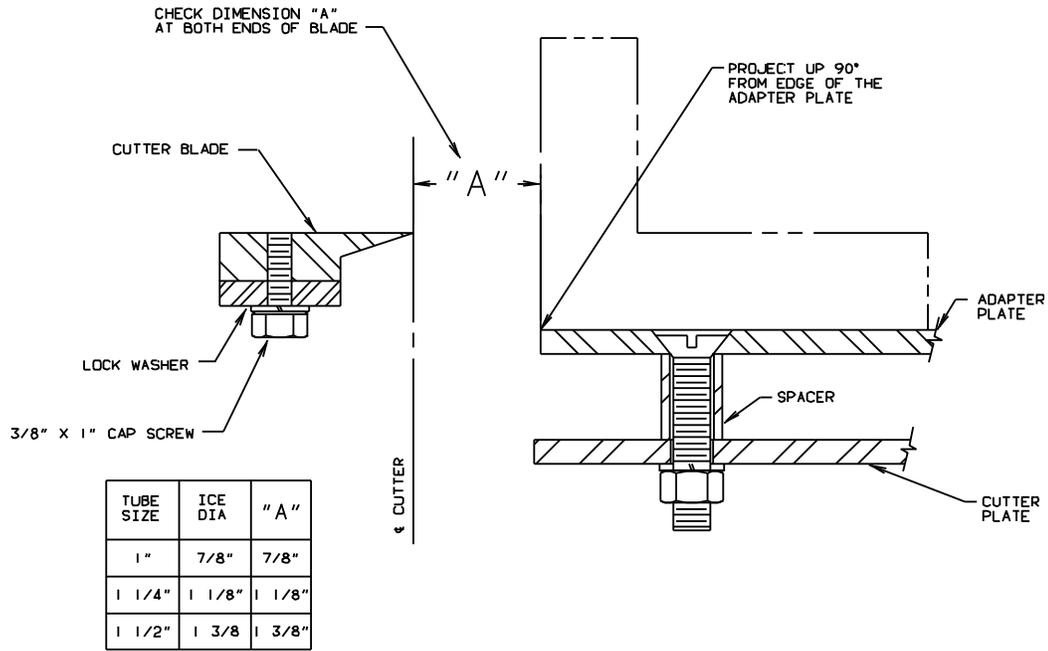
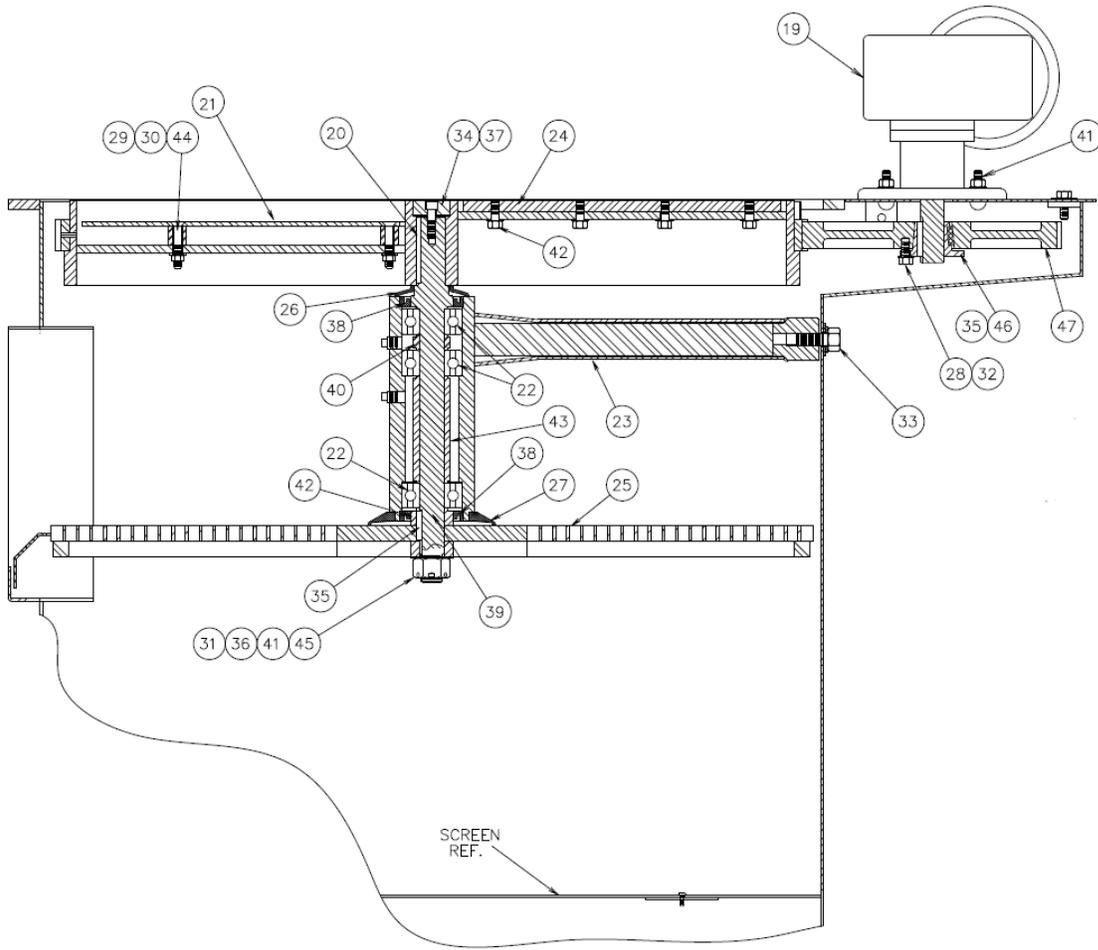

Figure 75: Cutter Blade and Adapter Plate Adjustment
Figure 76: Cutter Assembly
Follow the steps below. Refer to Figure 76.
The cutter shaft and bearings are sealed in the bearing bracket assembly. The cavity between the bearings has been filled with a food-grade grease to prevent the presence of moisture and to prolong the life of the unit. If any vertical or side move exists in the shaft or if the bearings feel rough or tight when turning the shaft, the assembly should be dismantled and rebuilt. Refer to Figure 76 for parts location and identification.
Follow the steps below. Refer to Figure 76. Use only a soft mallet for fitting all parts in place.
The cutter blades are designed to give many years of satisfactory service and rarely need to be adjusted. If they become damaged, they can be replaced following the steps below. Refer to Figure 75 and Figure 76.
6. Referring to Figure 75, adjust each blade to Dimension "A" and lock the blade in position by tightening the 3/8" cap screws. Use a square to obtain the proper blade clearance required for satisfactory ice discharge. Dimension "A" is critical and must be measured at both ends of the blade. Cap screws must be flush with the top of the cutter blade – use a fine grinder if necessary to trim any excess threads.
Follow the steps below. Refer to Figure 75 and Figure 76.
4. Locate the new adapter plate, holding the correct Dimension "A" from the edge of the plate to the edge of the blade. Refer to Figure 75.
7. Install bolts and spacers as illustrated in Figure 75 and tighten securely. The length of the ice is determined by the spacer length.
Follow the steps below to install the cutter shaft and bearing back into the housing after disassembly. Refer to Figure 76. Use only a soft mallet for fitting all parts in place.